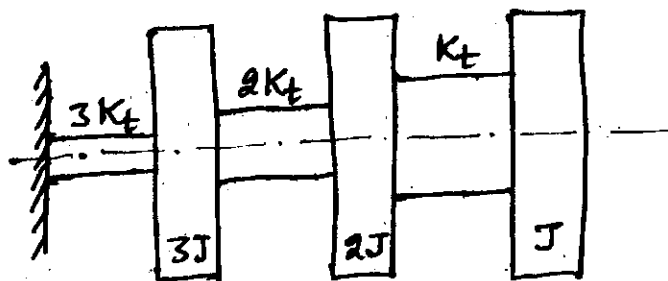

Fig.Q.7
- 7 Determine the natural frequency of the system shown in the Fig.Q.7 by Holzer's method. (20 Marks)